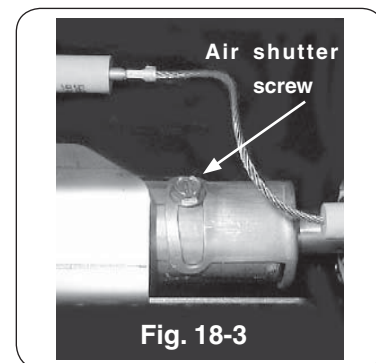

Fig. 18-3
- b. First remove the backburner cover (if installed), then loosen the air shutter screw (see Fig. 18-3). It may be necessary to use pliers to turn the air shutter. Light the backburner. With the control knob on **HI LIGHT** adjust the air shutter to have a blue flame that is not lifting off the burner (it may also have slightly yellow tips).